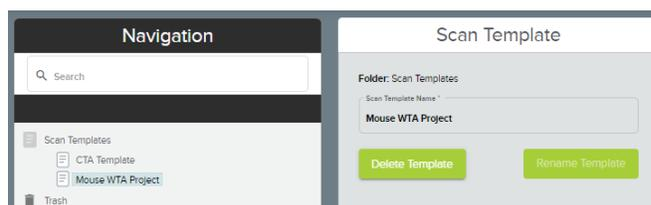

Figure 20: Scan templates in Navigation pane
4. The template is saved in the folder **Scan Templates** accessible at the top of the Navigation pane (Figure 20). To use it, see instructions on next page.
5. The template is saved in the folder **Scan Templates**, accessible at the top of the Navigation pane (Figure 20). To use it, see below.
**Delete** or **Rename** a scan template by clicking on the buttons on the Scan Template pane (Figure 20).